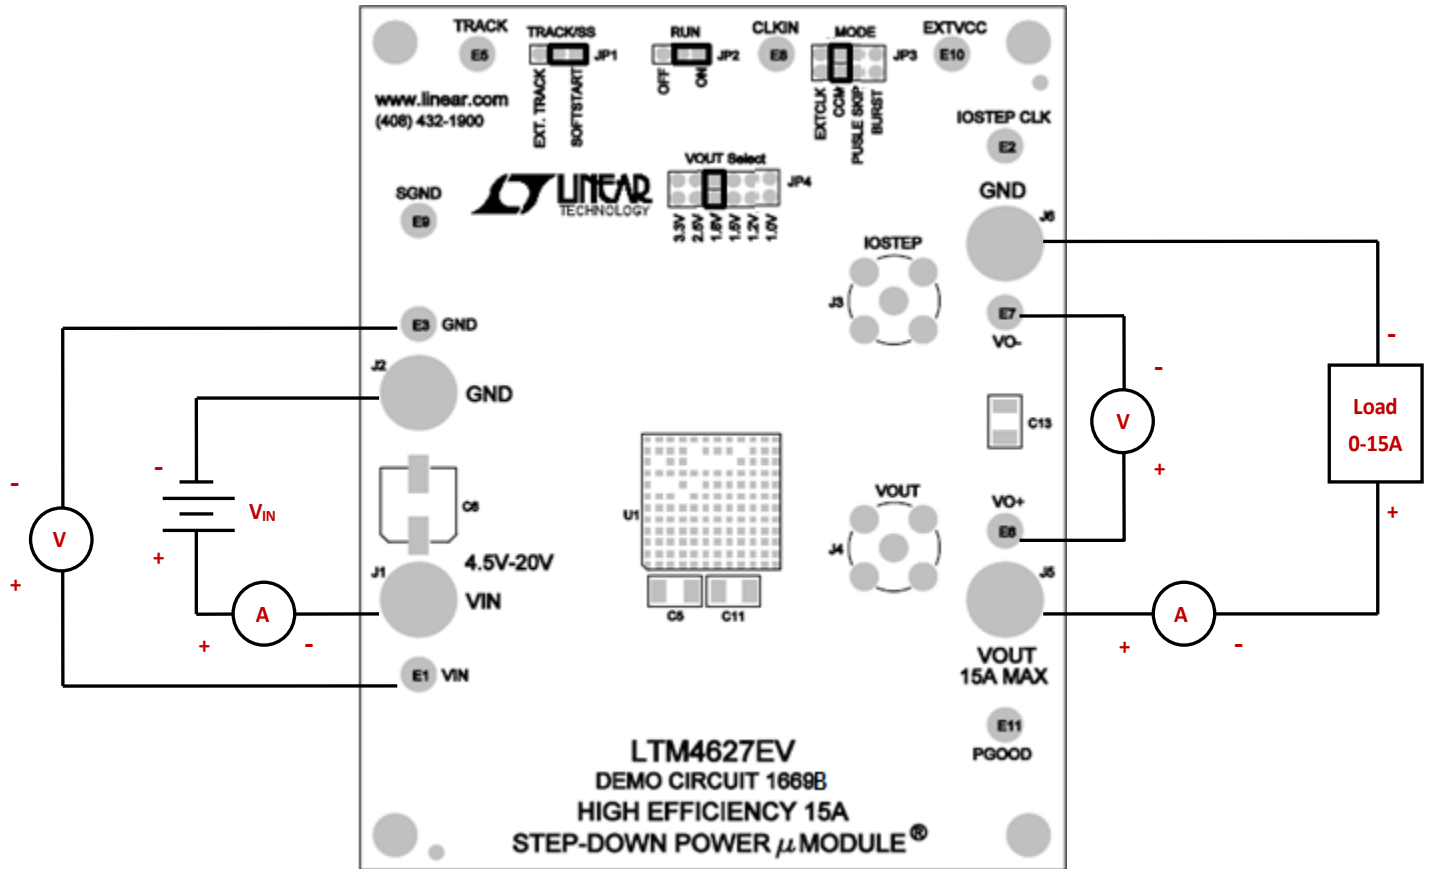

Figure 1. Test Setup of DC1669
Demonstration circuit 1669 is easy to set up to evaluate the performance of the LTM4627EV. Please refer to Figure 1 for test setup connections and follow the procedure below.
3. With power off, connect the load, input voltage supply and meters as shown in Figure 1.